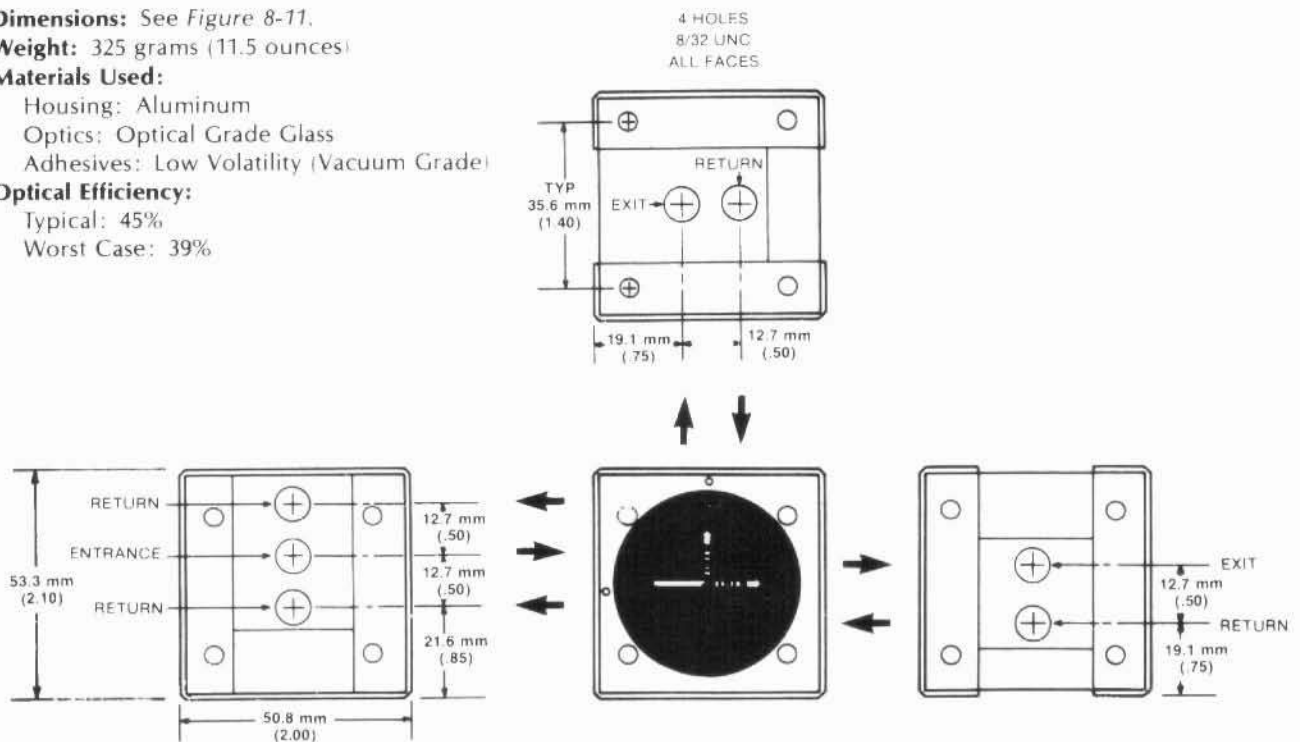

Figure 8-14. HP 10567A Dual Beam Beam-Splitter, Dimensions
**Dimensions:** See Figure 8-14.